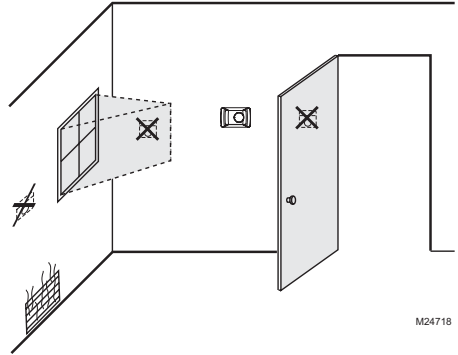

Fig. 6. Choose a location in the living area.
NOTE: Select a location clear of drafts or excessive humidity. Avoid mounting near doors or windows, or in bathrooms or kitchens. See Fig. 6.
- Using wire nuts, connect the low-voltage wire to the leads on the H8908 humidistat. See Fig. 6–19 for different wiring configurations.